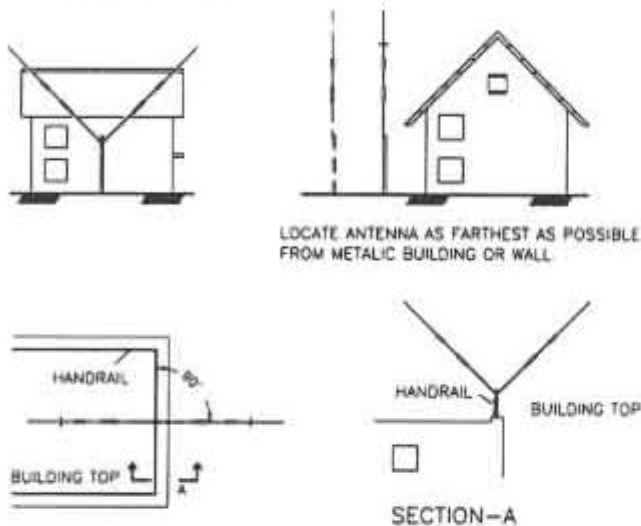

Figure 3. INSTALLATION SAMPLE
A variety of installing conditions are available for CD 730V-x(A) antenna when compared with a general horizontal dipole antenna. To ensure satisfactory performance of the antenna, better installation condition is required that its installing site must carefully be selected. Some preferable examples of such installation is illustrated in Figure 3. Installing on the ground or the building surrounded adversely a tiled wall or roof influences a little to the antenna performances, if it is set up near it, good performance can be secured. When the antenna is set up on the roof top of concrete steel building, adjustment is needed so as to have the best directionality.